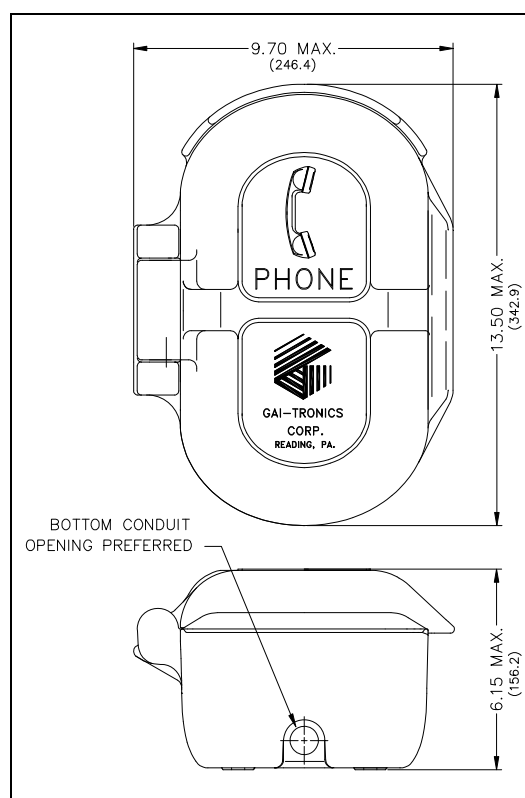

Figure 4. Model 227-001 Outline
5. Install a conduit fitting in one of the 1/2-inch NPT conduit entrances provided at both the top and bottom of the unit, and insert the conduit into the fitting. (The bottom location is preferred. See Figure 4.) Plug the unused access hole using the 3/8-inch Allen drive plug provided.